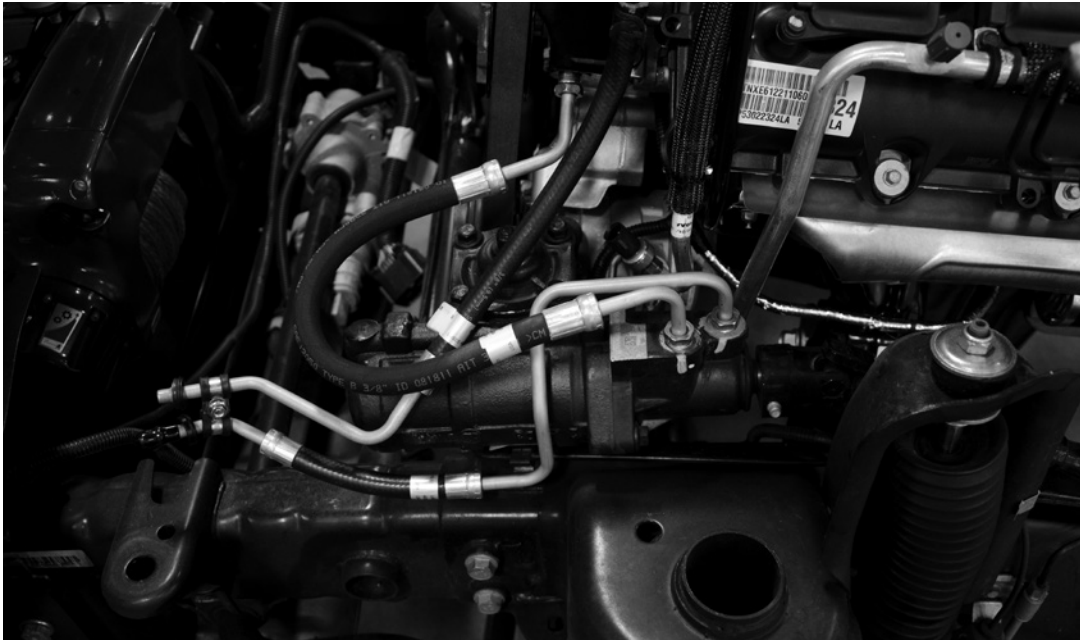

fig. 4
1. Install the lines as shown (fig. 4.) Be sure to lubricate all O-rings prior to assembly.